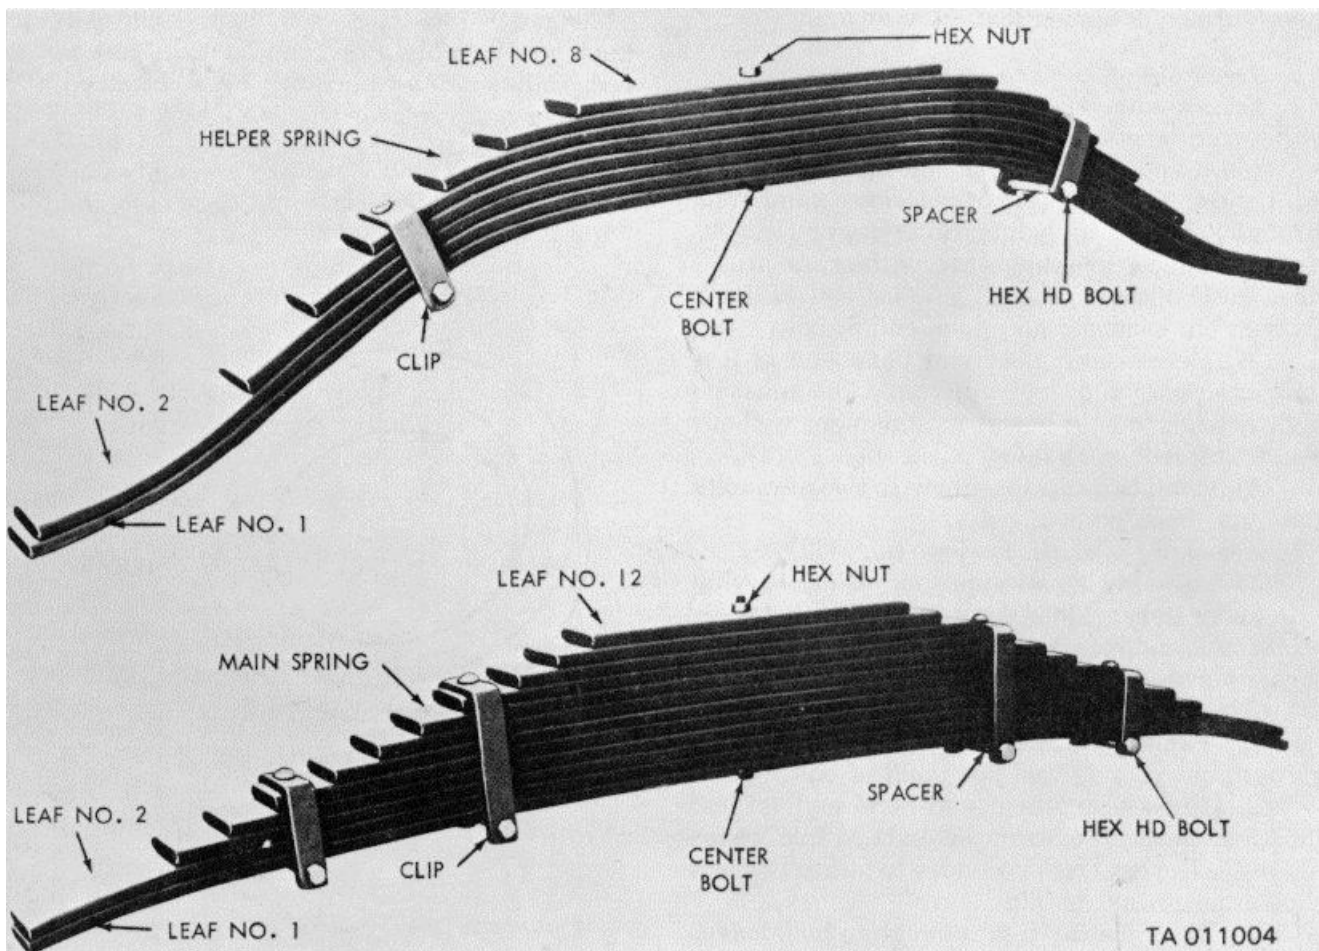

Figure 8-1. Spring assemblies.
d. *Disassembly (fig 8-1).*
(1) Disassemble springs into separate leaves only for replacement of broken leaves. The procedure for disassembly of the helper spring and main spring is identical.
(2) Clamp spring in arbor press or vise, or tighten C-clamp over spring near center bolt to hold leaves after spring alignment clips and center bolt have been removed.
(3) File or grind off peened ends of cap screws securing ends of alignment clips. File or grind off peened end of center bolt.
(4) Remove nuts, cap screws and spacers at each alignment clip and discard cap screw. Remove nut on center bolt and discard bolt.
(5) Gradually relieve pressure of press, vise, or C-clamp and separate leaves. If necessary, use heat to open alignment clips.
*g. Assembly of helper spring (fig. 8-1).*
(1) Assemble leaves in proper order starting with lower (larger) leaf number 1. Aline holes for center bolt and insert center bolt into hole in leaf No. 1 and through holes in other leaves numbers 2 through 8. Do not apply lubricant between leaves.
(2) Clamp leaves together with arbor press, vise, or C-clamps. Install nut on center bolt. Tighten nut securely and peen end of bolt.
(3) If necessary, heat and bend end of leaf clips into position over five leaves. Clips must be tight enough to hold leaves in alinement without restricting free movement of leaves.
(4) Install two clip spacers with two new bolts and nuts. Peen ends of bolts.
*h. Assembly of main spring (fig. 8-1).*
(1) Assemble leaves in proper order, starting with lower (larger) leaf number 1. Aline holes for center bolt and insert new center bolt through 12 spring leaves.
(3) If necessary, heat and bend ends of leaf clips into position over outer ends of five leaves (fig. 8-1). Repeat this procedure to locate two leaf clips in position over nine leaves.
(4) Clips must be tight enough to hold leaves in alinement without restricting free movement of leaves.
(5) Install four clip spacers with four new bolts and nuts. Peen ends of bolts.